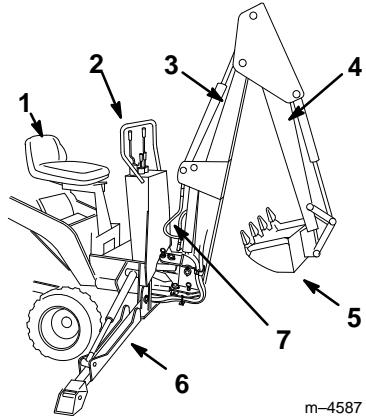

Figure 14
Figure 14 illustrates the backhoe. Familiarize yourself with all of the components listed in Figure 14.
- Fully raise the boom, retract the dipperstick, and curl the bucket rearward (Fig. 14). Ensure that you center the boom locking pin holes as much as possible.